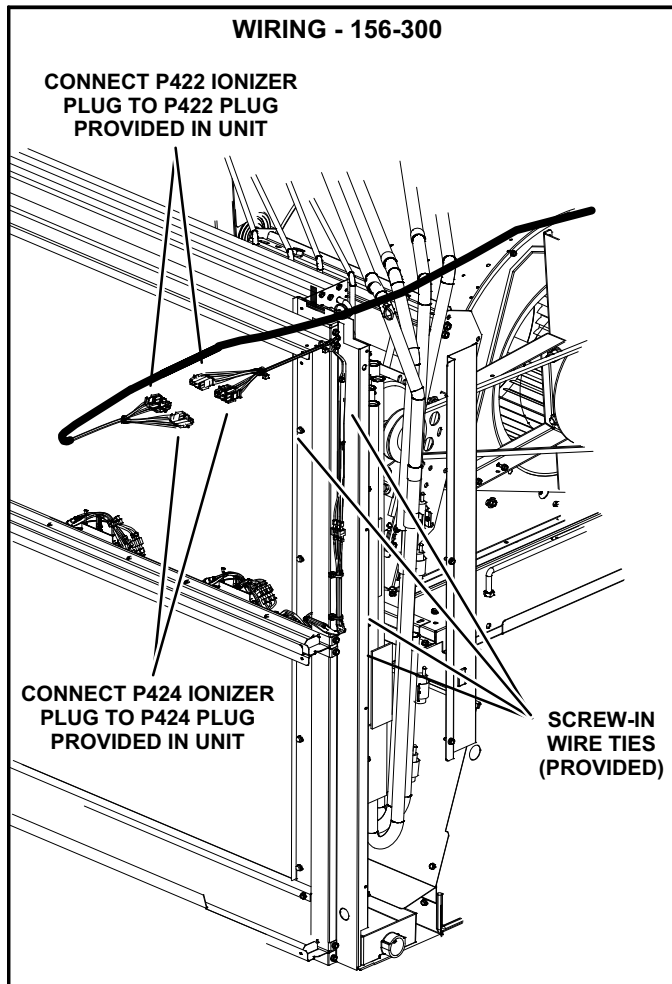

FIGURE 8
- Figure 8 - LGM/LCM/LGT/LCT/LHT/LDT156-300